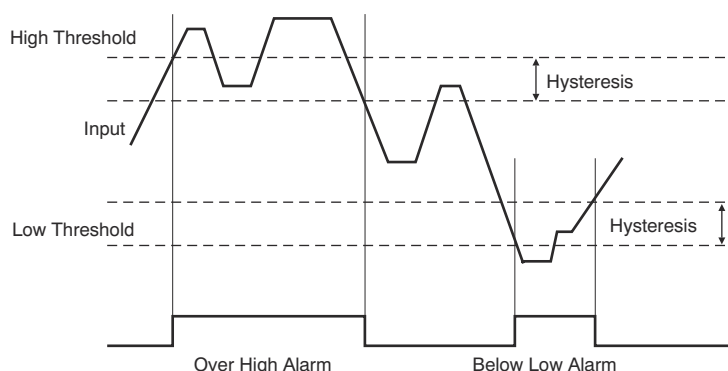

Figure 7-16. Hysteresis
The device continuously monitors the analog input channels and temperatures. If any alarms are out of range and the alarm is enabled, the alarm bit is set (1). However, the alarm condition is cleared only when the conversion result returns to a value of at least *hys* below the value of the high threshold register, or *hys* above the value of low threshold register. The hysteresis registers store the value for each analog input (CH0, CH1, CH2, and CH3) and temperature (D1, D2, and LT). *hys* is the value of hysteresis that is programmable: 0 LSB to 127 LSB for analog inputs, and 0°C to +31°C for temperatures. For the THERM-ALR bit, the hysteresis is fixed at 8°C. The hysteresis behavior is shown in Figure 7-16.